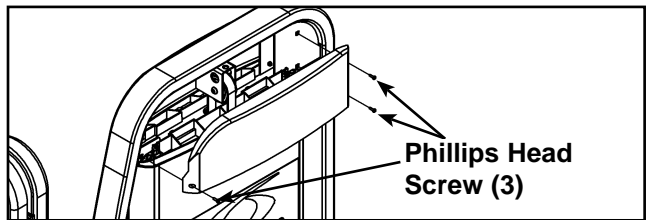

Figure 3
- E. Remove the three Phillips head screws securing the top (back) shroud and carefully remove the shroud. See Figure 3.